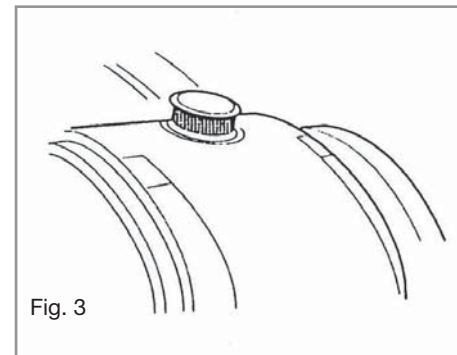

Fig. 3
- If the green indicator is visible then you know you have correctly coupled your AKS to your towing vehicle. **(Fig. 3)**